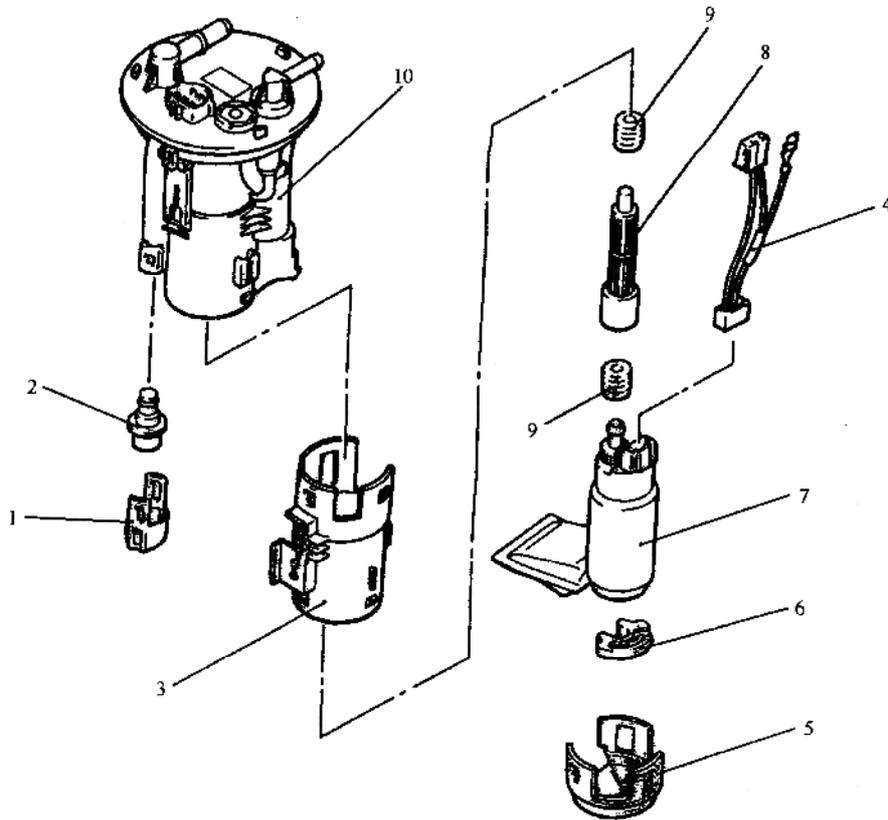

Fig. 6-4
1. REVERAL AND INSTALLATION (see Fig. 6-4)